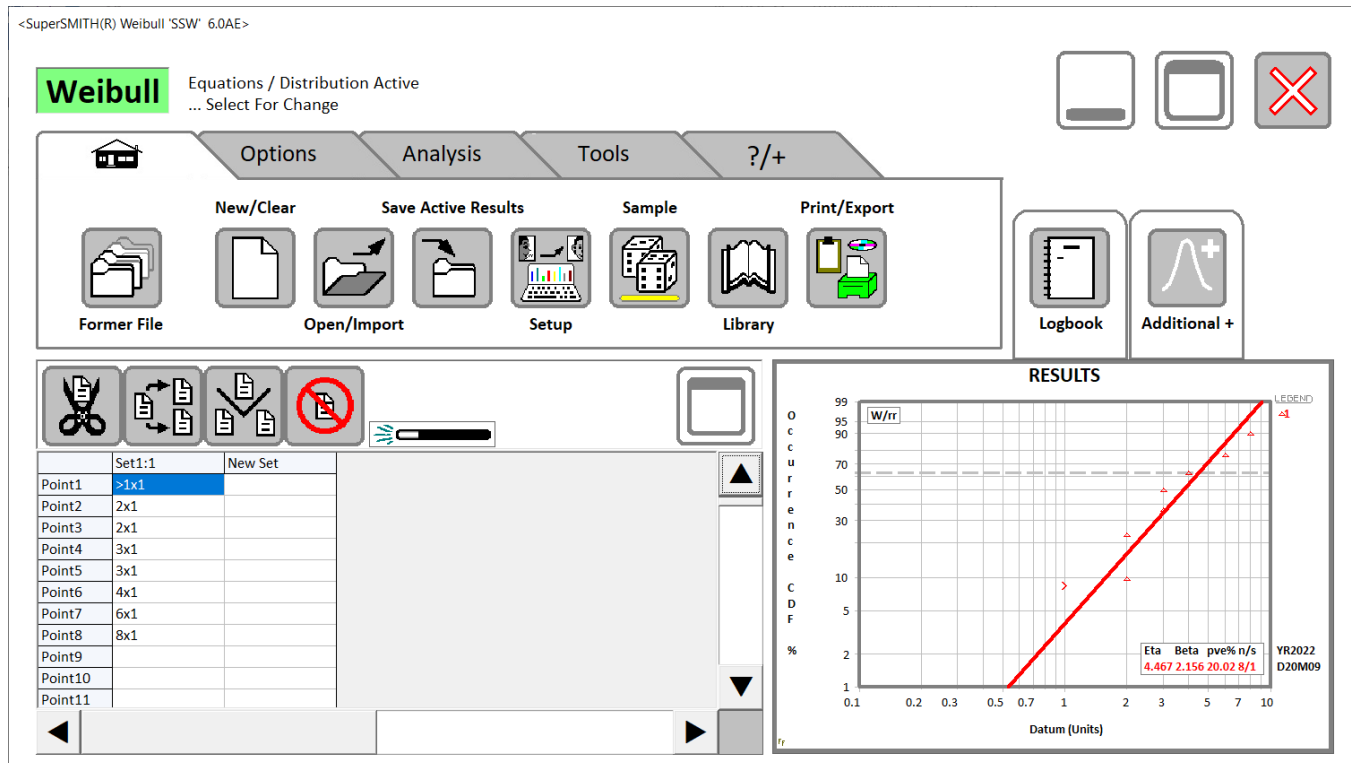

Figure 2: New SuperSMITH Weibull Main Screen Icon Layout.
**DIRECT INSTALL:** Power up the PC (Windows or simulator). Have the SS **setup.exe** and other installation files available. Load onto the PC by running **setup.exe** and following the prompts. After install, within the SuperSMITH group, select the SuperSMITH Weibull program. This is the SMITHW.EXE file or the icon showing plotted data with fit and confidence lines. Initially select “Yes” to agree to usage conditions, and automatically advance to the Main Screen (Figure 1 below shows the former icon layout, Figure 2 on the next page shows the new icon layout).
Use single selecting (single touching for touch screens) mostly in SuperSMITH. Double selecting is discouraged to minimize hand stress. We will be using life data mostly for illustration, but any type of measured data with variability can be analyzed. **For this tutorial if using the DEMO software, all input data must only be loaded from a file previously saved by a FULL SuperSMITH software program (provided with the software).** If using the FULL software, this is not a concern but maybe easier to do. All file names shown here are on a single text line for easy copying. Reminder: Figure 1 shows the new SSW icon layout for standard pointing device use, and Figure 2 shows an optional larger icon layout with tabs for touch screen use.
Start the SSW software by choosing Start from the Windows™ Main Screen, then the SuperSMITH group, then Weibull. On first use, select “Yes, I agree...” if you are asked and if you agree to the software use terms. The Main Screen (View of Figure 1 or Figure 2) should appear with an equation Label (“Weibull” at first), some icons, a data grid and a results box.
- B. Probability plot should appear. Select plot to enlarge. The plot should resemble Figure 2. Your solution should indicate Eta=4.467, Beta=2.156. If not ... check the data and/or reset the method to Weibull “rank regression” standard. Select the full-window plot or use the <ESC> key to shrink the plot returning you to the Main Screen.